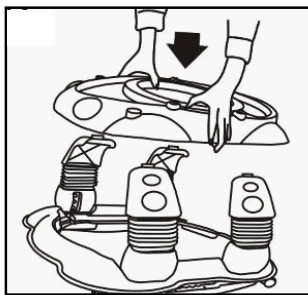

**Figure 2**
- Legs with square pins enter the square holes at the base, as per **Figure 2**.